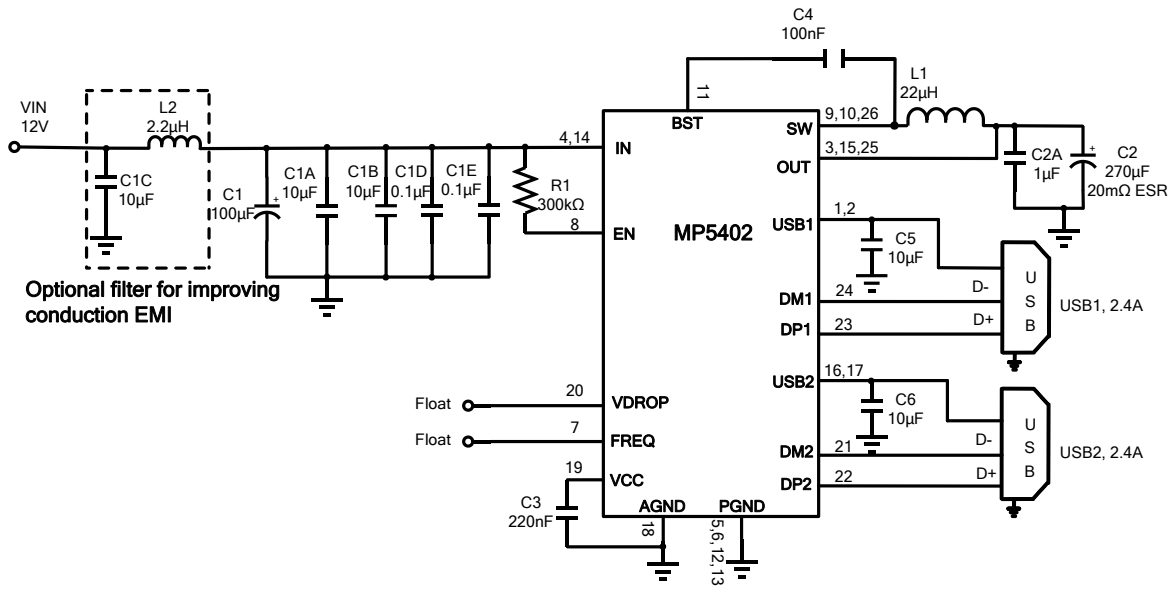

Figure 6: USB1 = 5V/2.4A, USB2 = 5V/2.4A
- 8) The recommended layout is based on the Typical Application Circuit shown in Figure 6.